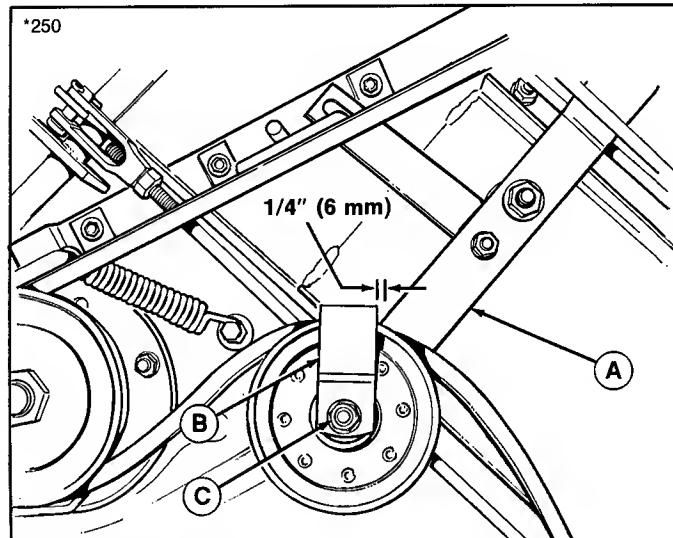

Figure 36. Idler Pulley Belt Guide
The idler pulley belt guide is correctly adjusted when its edge is $1/4$ inch (6 mm) from the rear edge of the idler arm (figure 36). If not, loosen the nut (C) and move the belt guide. Tighten the nut and recheck the measurement.